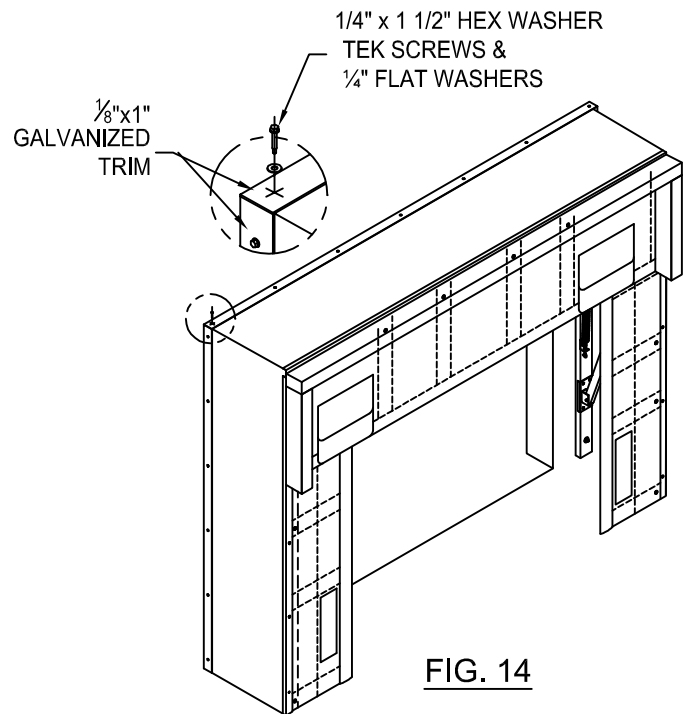

FIG. 14
*Fasten the 1/8"x1" galvanized trim flush with the outside frame of the unit and building wall, using 1/4" x 1 1/2" hex washer tek screws & 1/4" flat washers (FIG. 14).